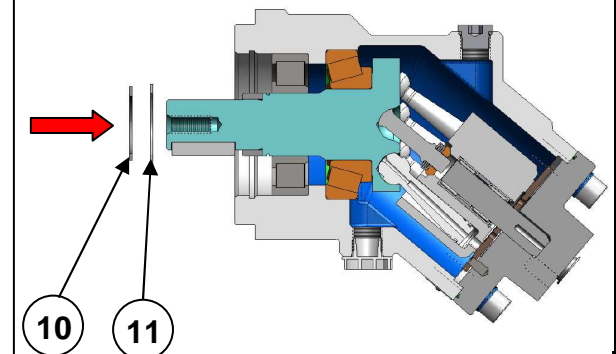

Fig.12.
- Mount the shim **11** on the drive shaft and then the retainer ring **10** with an external plier. Fig.12.